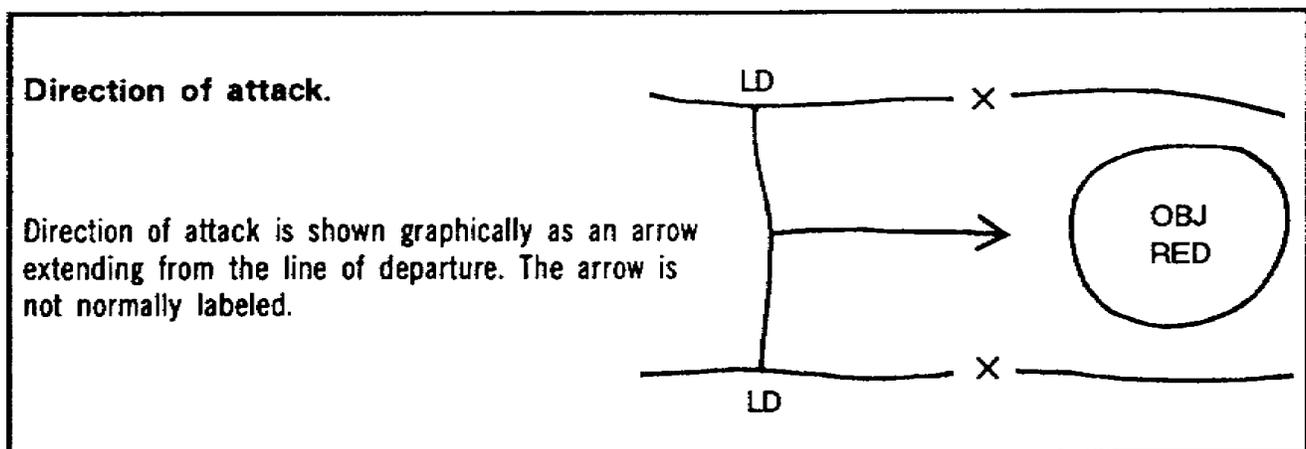

Figure 1-16. Direction of attack
a. Routes (App B, p B-45). A route is a line, undefined in each direction. As soon as a direction is shown, the route becomes a nonstatic activity. It is the prescribed course to travel from a specific point of origin to a specific destination. Figure 1-16 shows a route depicting a direction of attack.